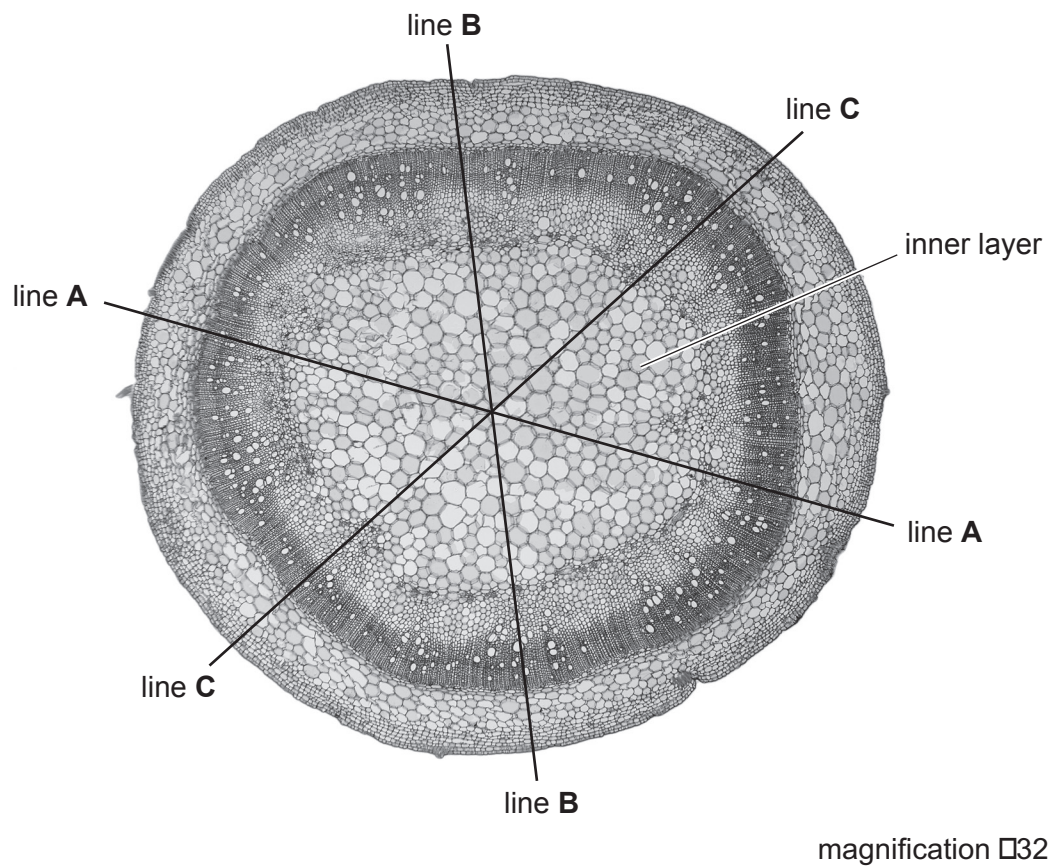

Fig. 2.2
- (b) Fig. 2.2 is a photomicrograph of a stained transverse section through a stem of a different type of plant.
- (i) The magnification of the stem section in Fig. 2.2 is $\times 32$.
- (c) Fig. 2.3 is a photomicrograph of the same stem section that is in Fig. 2.2.